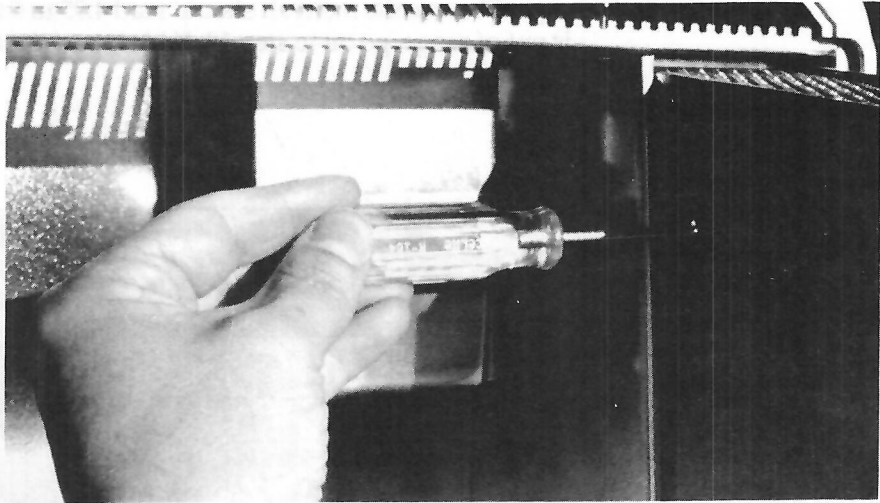

Figure 13-35 The +5.00-V adjustment can be reached through this access hole on the left side of the power supply.
20. As shown in Figure 13-35, find the access hole on the left side of the power supply. With a long-handled $\frac{1}{8}$ -inch slotted screwdriver, tweak the +5.00-V adjustment pot (R11) clockwise $\frac{1}{16}$ of a turn. Reinsert the supply and measure again (repeating step 18). If the meter still doesn't read +5.00 volts, repeat steps 18 through 20 until it does.